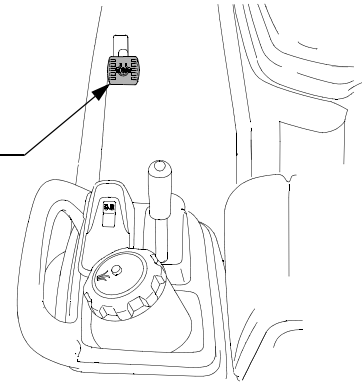

Figure 18
- Fully depress and hold the differential lock pedal to engage the transmission differential lock. Release the pedal to disengage the differential lock. Refer to Figure 18.